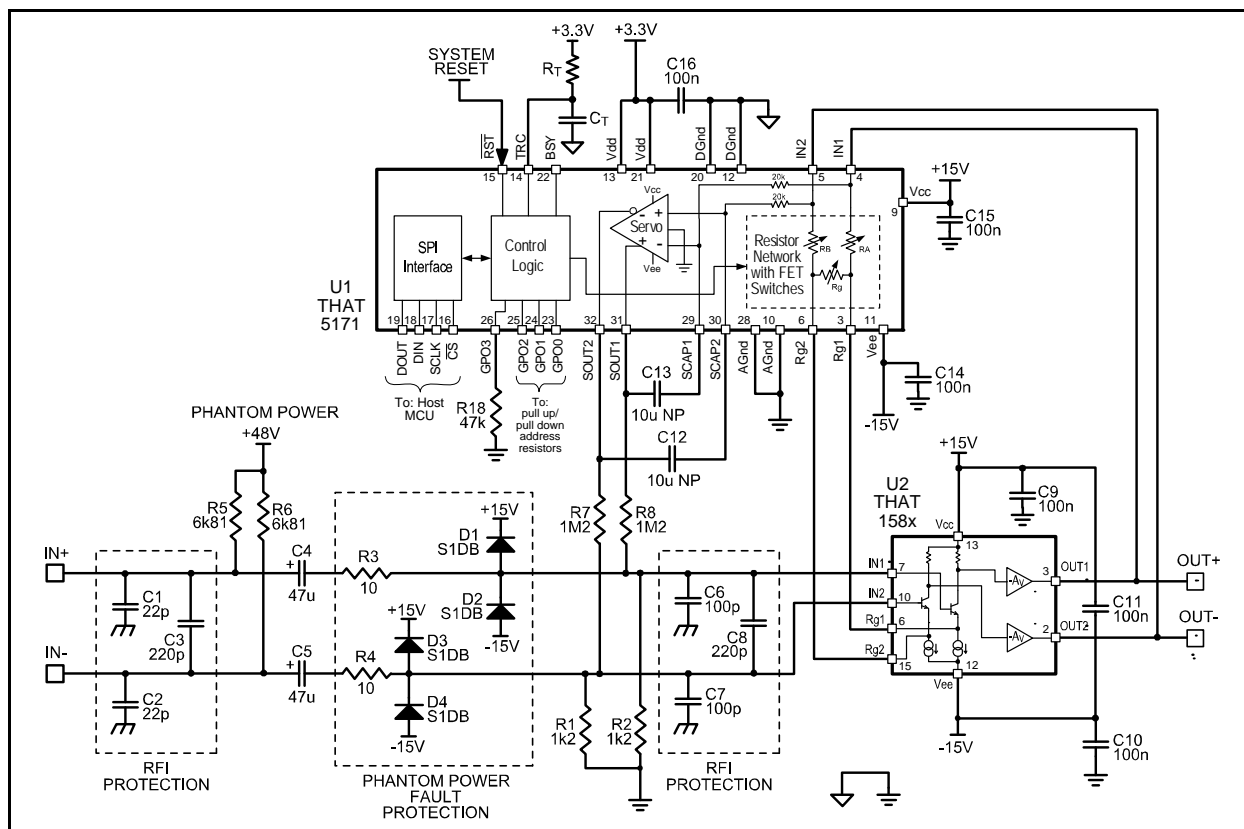
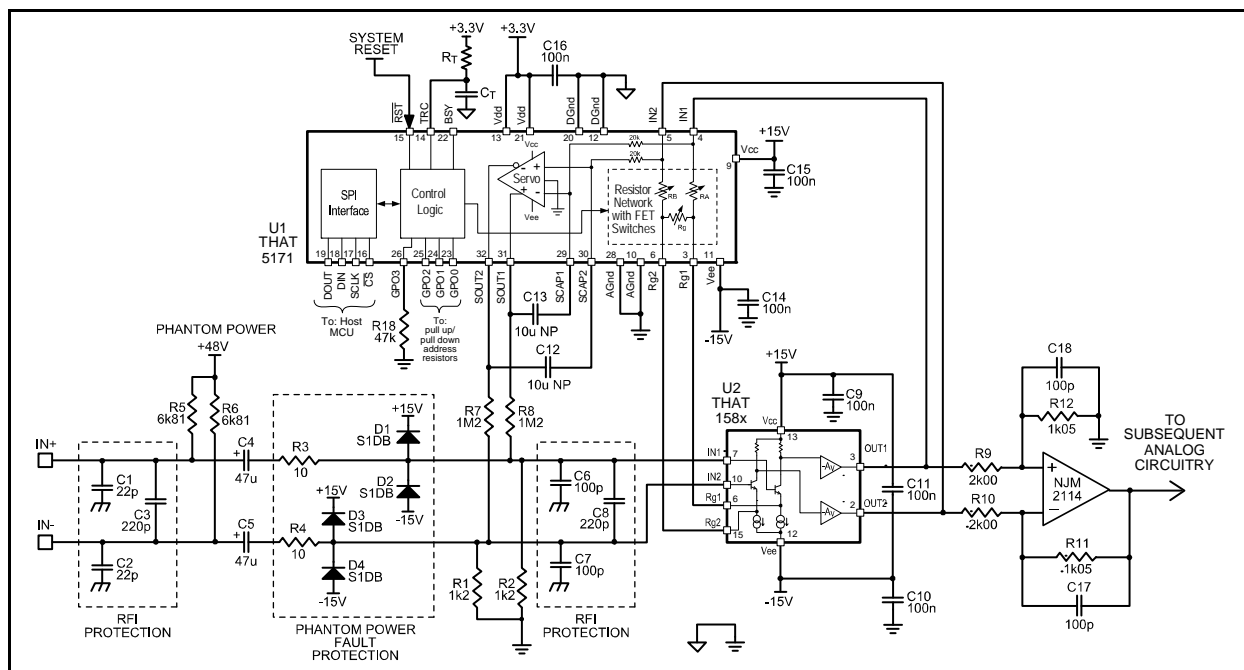

Figure 3. 5171/158x basic application circuit.
Figure 4. 5171/158x typical application with single-ended output.
A built-in zero-crossing detector can be used to restrict gain changes to times when the analog signal is very close to zero. The detector monitors the differential signal present between the IN₁ and IN₂ pins of the 5171. When enabled, it permits gain changes to take place only when the signal is within $\pm 5mV$. A timeout (set by external components R_T and C_T in figures 3~6) ensures that a gain change will always occur at the expiration of the timeout, in case the signal has not gotten within the voltage window by that time.
The combination of the input coupling capacitors (C₄ and C₅ in Figures 3~6), the bias resistors for the 1580 (R₁ and R₂ – which form a load for C₄ and C₅), and the servo, form a 2nd order highpass filter whose characteristics change with the gain setting. The Q of this filter is highest at the highest gain setting. (At low gains, the behavior is governed almost entirely by the input coupling network and bias resistors, since the poles split and the one related to the servo moves very low.) Assuming 1.2k Ω for R₁ and R₂, and 1.2M Ω for R₇ and R₈, we can set the highest Q to be about .87 (for approximately Butterworth response) if we choose C₁₂ and C₁₃ to be 1/5 the values of C₄ and C₅.
The circuit of Figure 3 shows the most basic application of the 5171 and 1580 to form a complete low-noise microphone preamplifier.
The circuit of Figure 3 offers differential gain that varies from 5.6 to 68.6dB. There is one large ~8dB step from 5.6dB to 13.6dB. Above 13.6dB, gain may be controlled in 1dB steps to +68.6dB. For single-ended analog outputs, the circuit of Figure 3 can be followed by a differential-to-single-ended converter, as shown in Figure 4. Here, the differential amplifier is configured for -5.6dB gain in order to minimize noise and maximize headroom at the output of the circuit. Including the 5.6dB attenuation in the differential amplifier, the system gain can be set to 0dB, or any gain from +8dB to +63dB in 1dB steps.
With the circuit of Figure 4, the maximum input signal levels remain the same, but the (now single-ended) output levels drop by 5.6dB due to the loss of the differential amplifier. When converting to single-ended signals, take care to select a low-noise opamp, and pay attention to the noise generated by the impedances. The component values shown in Figure 4 will largely preserve the dynamic range of the 1580 and 5171 combination, though they do compromise noise by 1dB at the lowest gain settings.
The circuits of Fig 3 through 6 include RFI protection in two sections. Small capacitors (C_1 and C_2) are used from the positive and negative signal inputs to chassis ground, along with a larger capacitor (C_3) across the two inputs. These components should be located as close as possible to the input signal connector, and are intended to prevent RF from entering the chassis of the device.
- 2) **ZERO-CROSSING Mode:** Updates are made on the next output signal zero-crossing after a rising edge on the /CS pin. An RC time constant connected to the TRC pin (R_T/C_T in Figures 3~6) establishes a time-out period in case a zero-crossing does not occur within a desired time window. The zero-crossing time-out function operates as follows: